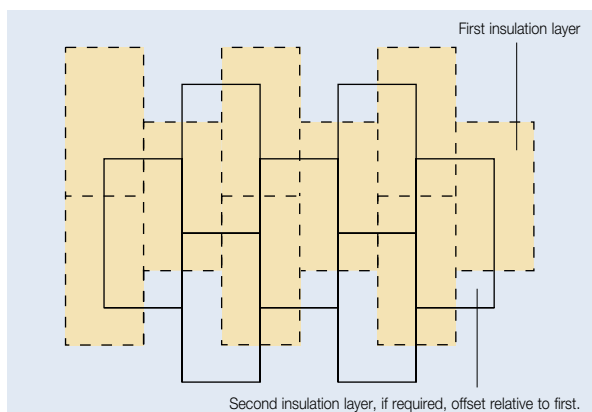

Figure 12 – Offsetting of Multiple Insulation Layers
- If two layers of insulation are required, they should be horizontally offset relative to each other so that, as far as possible, the board joints in the two adjacent layers do not coincide with each other (see Figure 12).